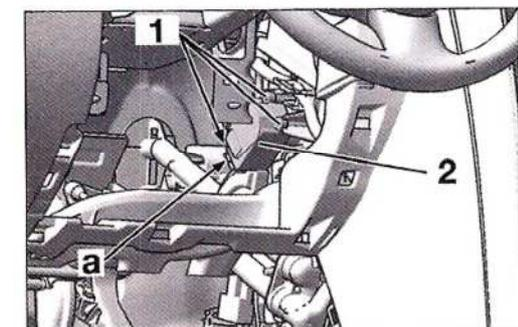

FIG. 26
- Desconectar el conector (a) (Fig.26).